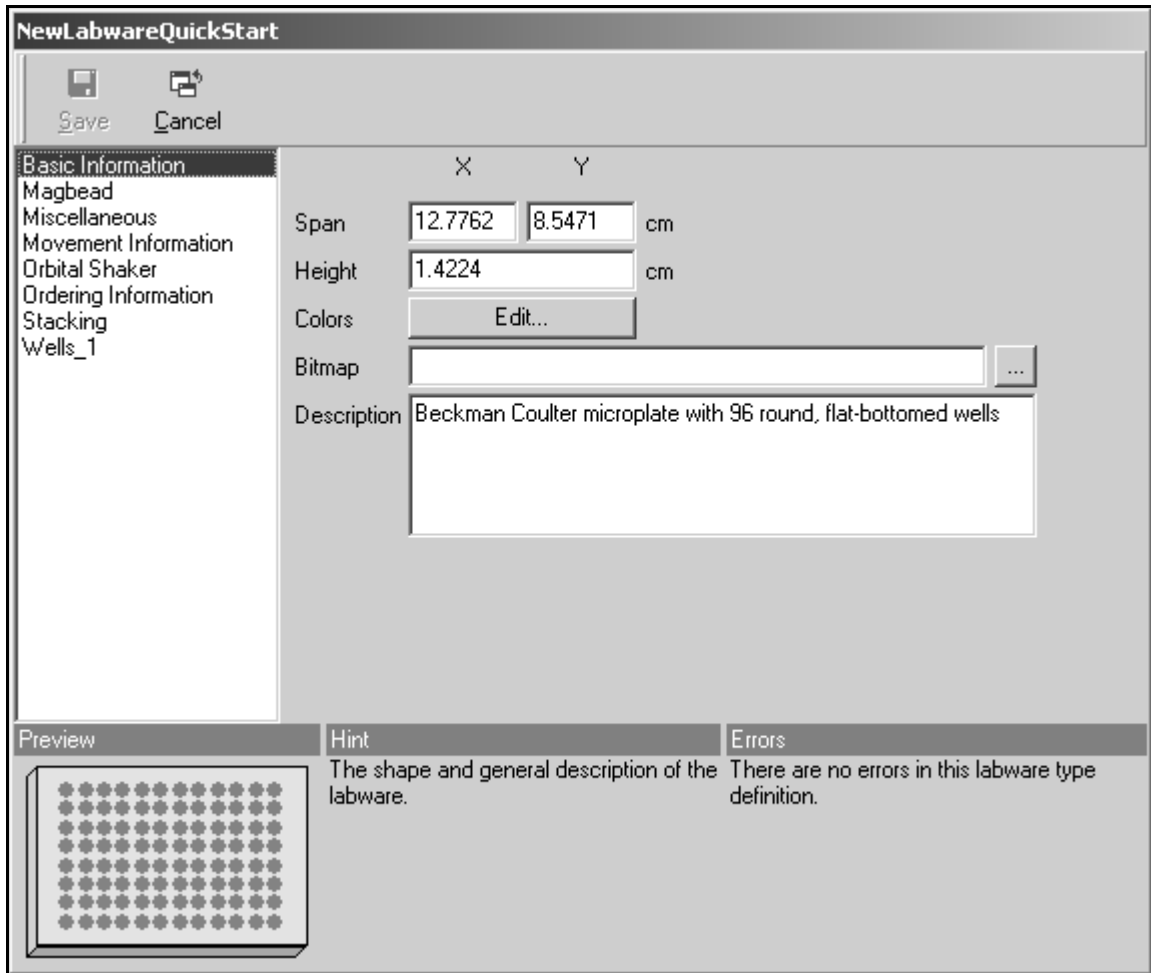

Figure 3-5. NewLabwareQuickStart
- Double-click the NewLabwareQuickStart graphic. NewLabwareQuickStart appears (Figure 3-5).
**Note:** Each piece of labware in Labware Types has its own mini-editor similar to Figure 3-5 to allow specifications to be revised and saved.